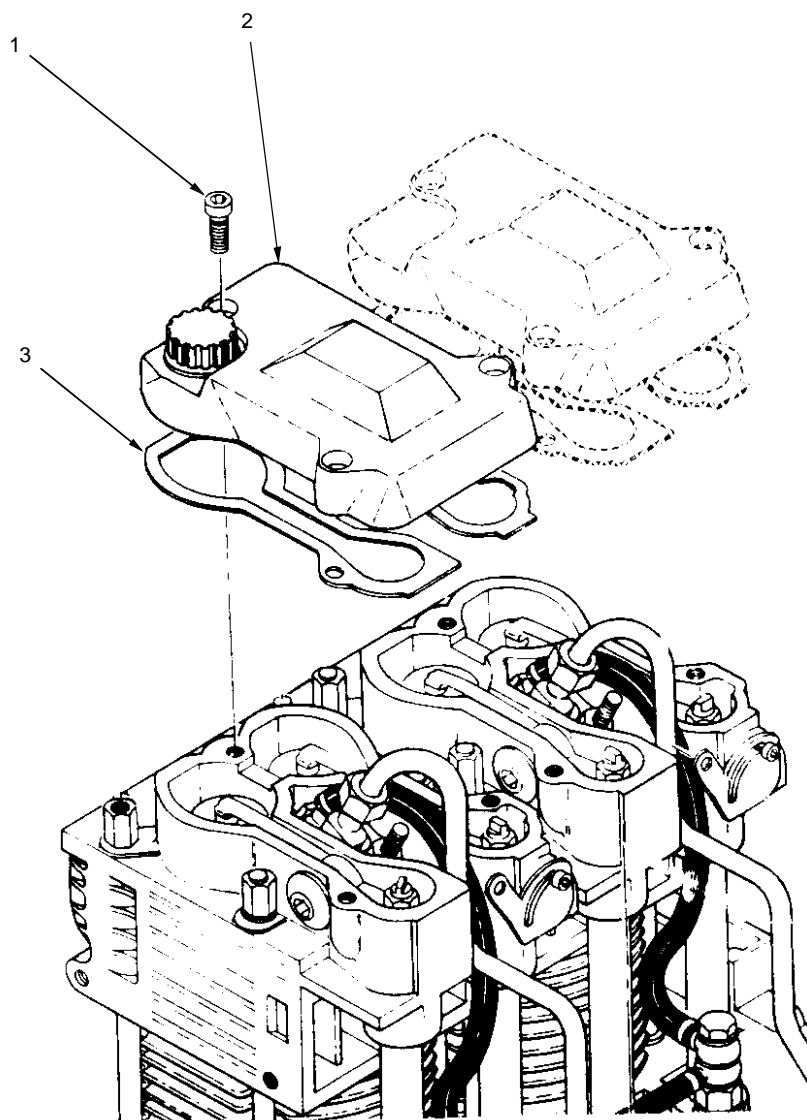

Figure 8. Valve Cover Removal
**REMOVE VALVE COVERS** (Refer to figure 8.)